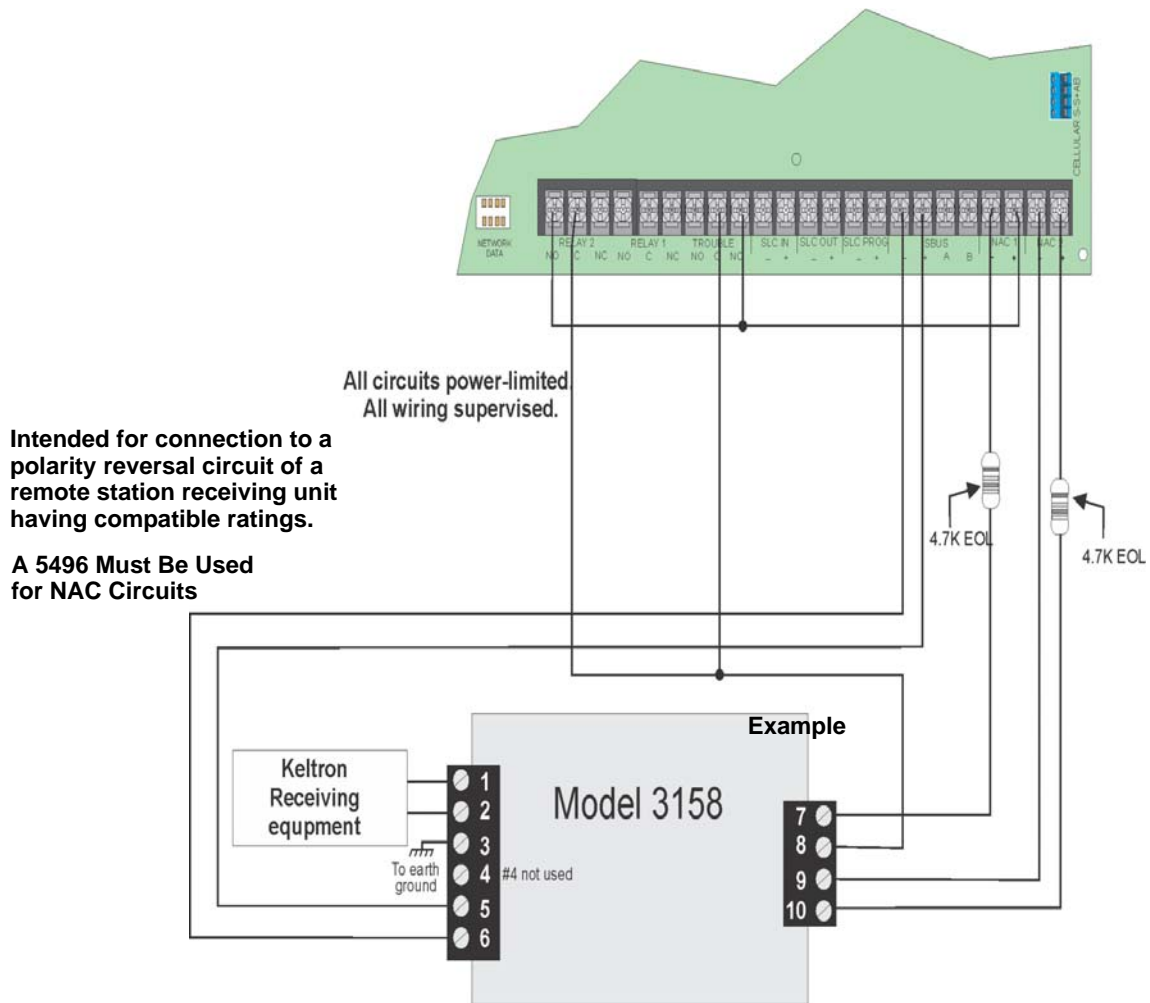

Figure 4-47 Keltron 3158 Connection to Control Panel
1. Wire the 3158 to the control panel as shown in the connection list and Figure 4-47.